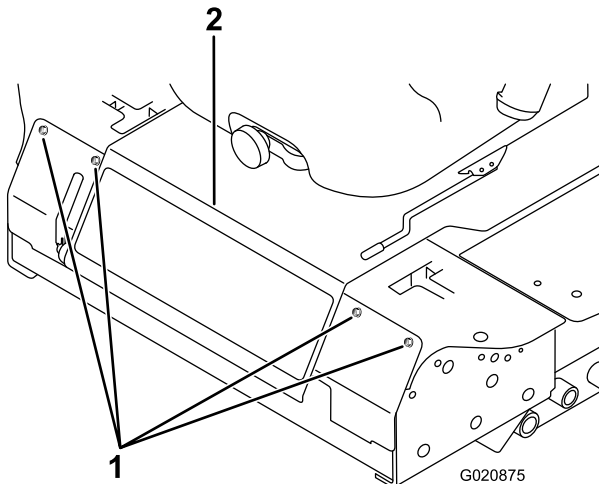

Figure 46
2. Remove the bolts securing the front panel and remove the panel (Figure 46).